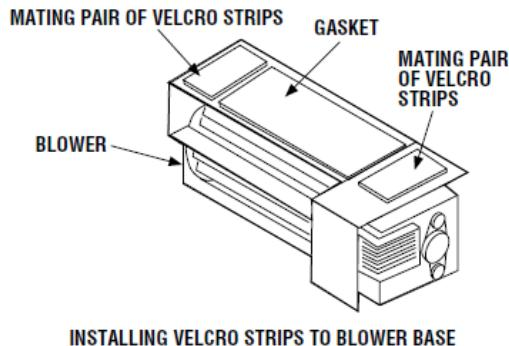

Figure 5
– Place the two mating halves of each of the two Velcro sections together. Peel the backing from one side of both of the mating pairs and stick the pairs to the back of the blower housing as shown in **Figure 5**.